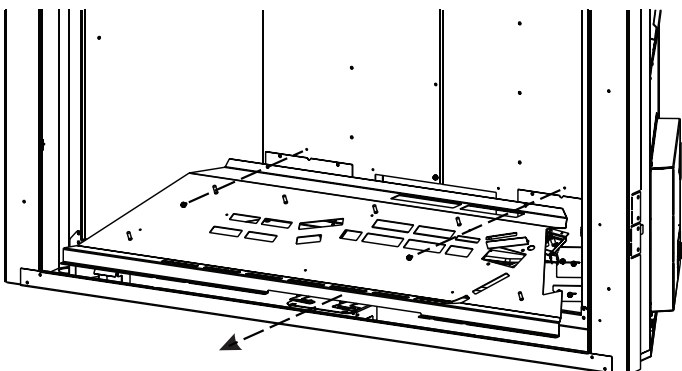

Figure 3
4. Remove (2) screws holding pilot assembly to burner pan. This will allow pilot assembly to drop.
5. Remove (2) screws holding burner base in place. Lift burner base out of firebox. **See Figure 3.**